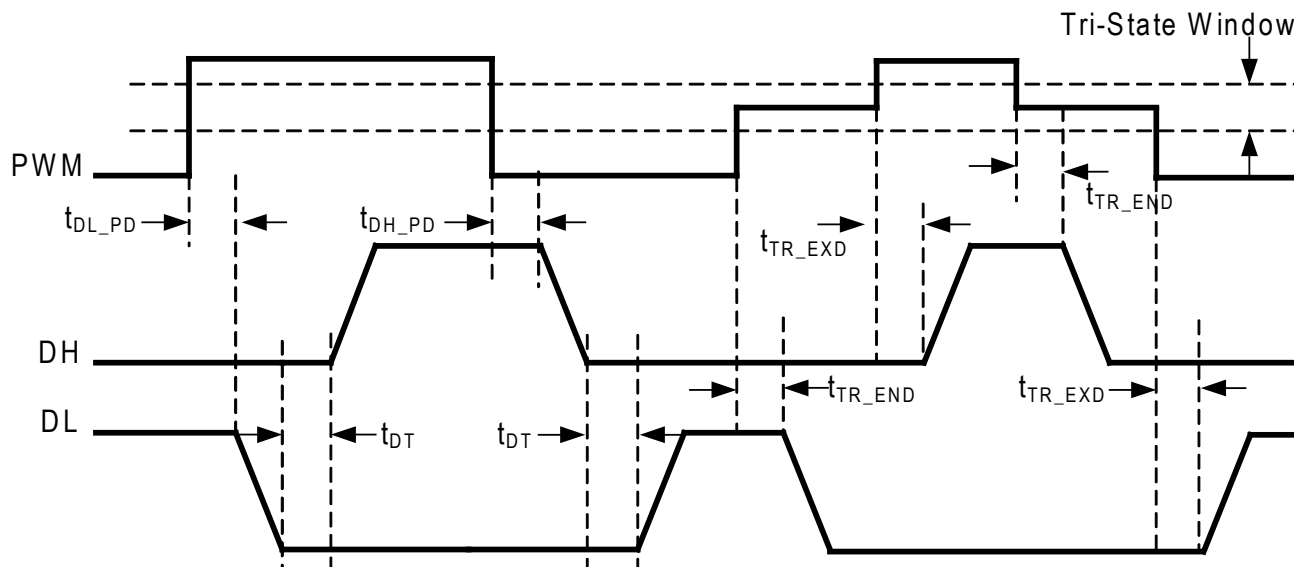
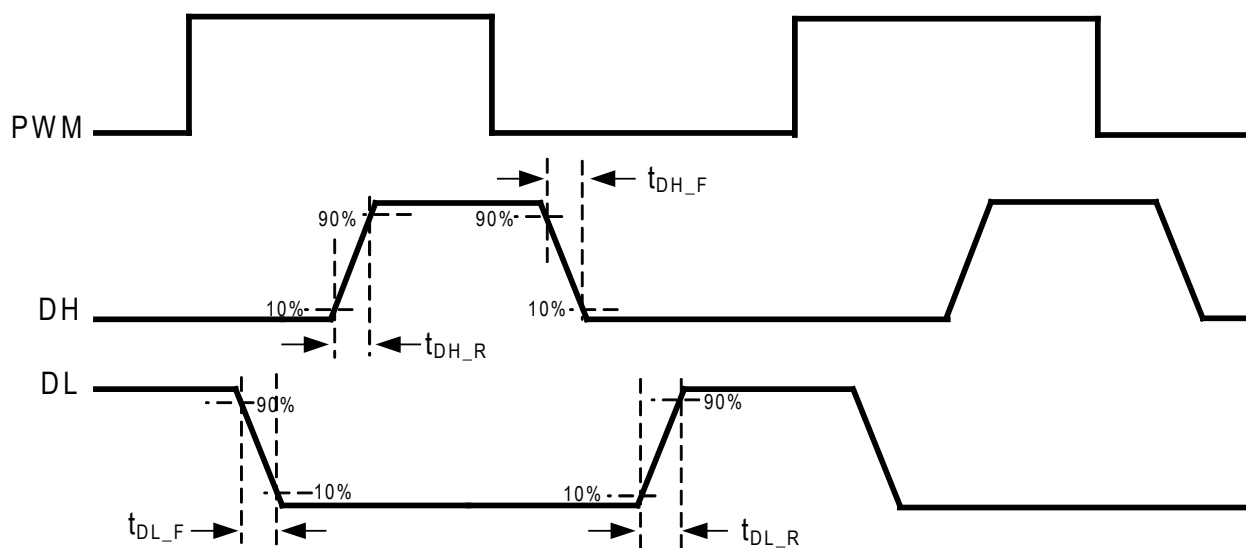

Figure 2. Timing Diagram 1
Figure 3. Timing Diagram 2
- (1) Refer to Figure 2 and Figure 3 for the timing definition.
(2) The dead time is $C_{DT} \times 1\text{ns/pF}$, where C_{DT} is in pF.